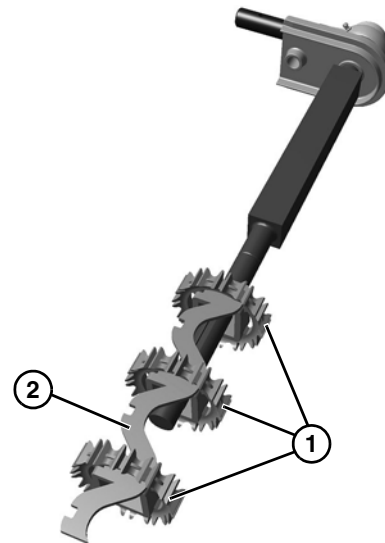

Figure 56
11. Remove the sprockets (**Figure 56, item 1**) and alignment bar (**Figure 56, item 2**).